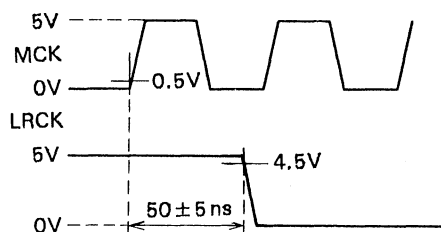

Fig. 5-2
3. First turn VR1107 all the way left (counter-clockwise). Turn VR1107 slowly to the right until the time interval between the 0.5V point on the rising TP (MCK) signal and the 4.5V point on the falling TP (LRCK) signal becomes 50 ± 5 nsec for the first time (see figure 5-2).